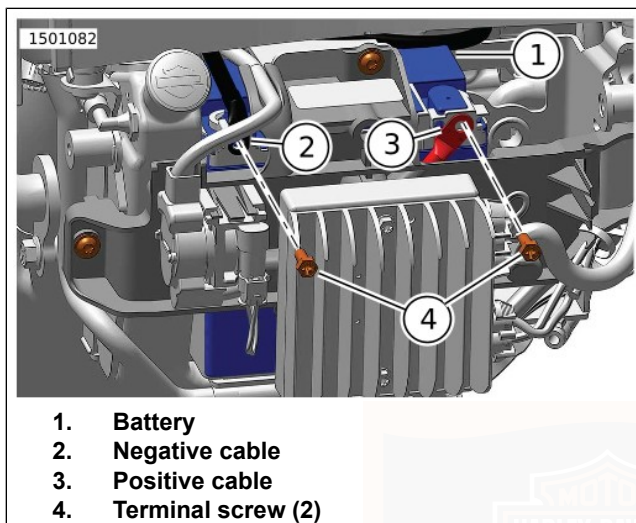
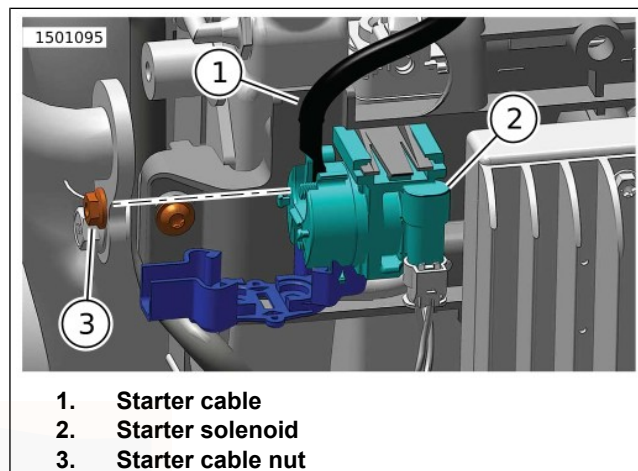

Figure 77. Battery Cables
Figure 78. Starter Cable
2. Figure 77 Remove battery negative cable (2) from battery (1).
3. Remove battery positive cable (3) from battery.
4. Figure 78 Remove starter cable (1) from starter solenoid (2).
4. Figure 77 Install battery positive cable (3) to battery. Tighten.
6. Figure 78 Install starter cable (1) to starter solenoid (2). Tighten.